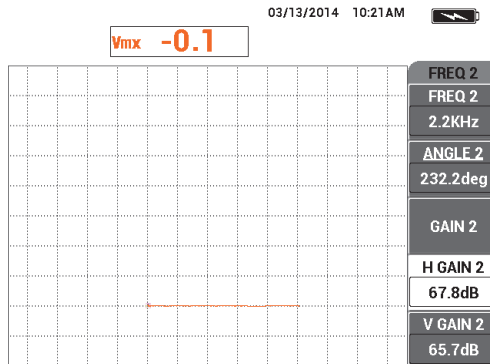

Figure 5-132 Adjusting the H GAIN 2 value
31. While firmly pressing the probe on the business card, adjust the **H GAIN 2** (D key) until the mix signal extends about 5 horizontal divisions away from the null point (see Figure 5-132 on page 219).